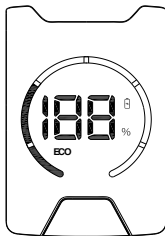

Figure 1
1. Press the switch button, and the machine will enter the low mode by default. The word «low» will be displayed on the display screen. At the same time, the percentage of electricity synchronized with the battery status of the whole machine will be displayed. (See Figure 1)
4. Press the speed control button again to enter the intelligent mode. In the intelligent mode, the machine will intelligently adjust the power of the machine according to the dust concentration and the ground brush load to meet the needs of different occasions; The word «AUTO» is displayed on the display screen, and the percentage of electric quantity synchronized with the battery status of the whole machine and the icon mark of electric quantity are also displayed. At this time, the ratio of aperture shows the concentration of dust absorbed, the low concentration shows 1/3 aperture, the middle concentration shows 2/3 aperture, and the high concentration shows all aperture. (see Figure 1, 2, 3 and 4)